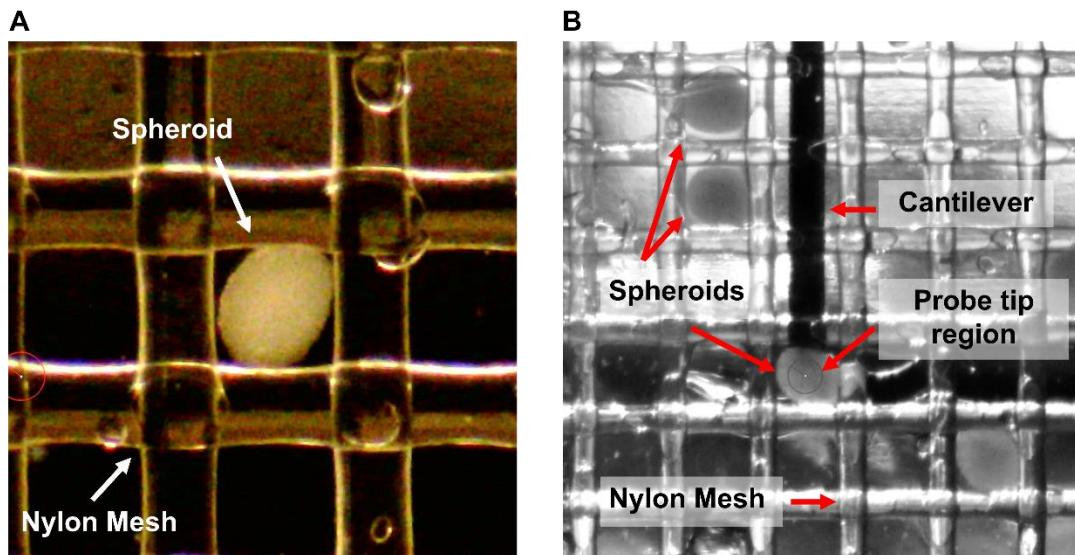

Figure 2: Spheroids trapped in nylon mesh [3].
6. Use a nylon mesh to trap spheroids onto a substrate (see **Figure 2** below). Select the mesh size to match the spheroid size and glue the mesh to a substrate, then the medium and spheroids can be transferred and measured.